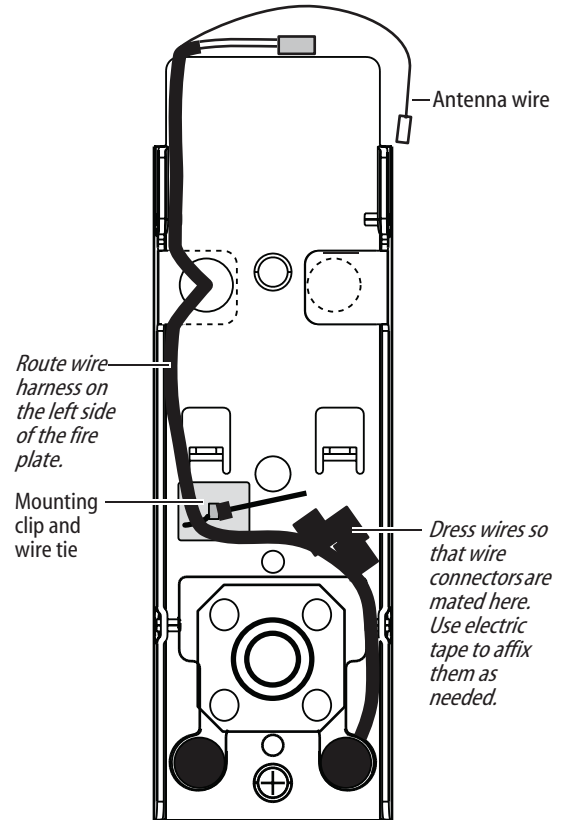

Figure 12 Routing the wires
- 2 Insert the plastic wire tie through the mounting clip and secure the wires as shown in Figure 12.